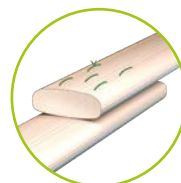

Fig. 2c
In most cases the transplant used is the semi-tendinosus (ST) but the gracilis can be used to extend the graft to the length required in case of ST harvesting troubles. (Fig. 2c)